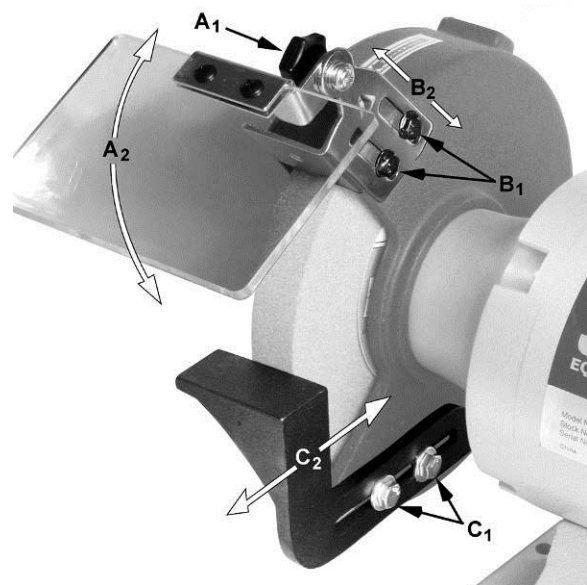

Figure 3
1. Loosen *lock knob* (A1, Fig. 3).
2. Adjust *eye shield* to the desired tilt angle (A2, Fig. 3).
1. Loosen two *hex cap screws* (B1, Fig. 3) with a 10mm wrench.
2. Slide the spark guard (B2, Fig. 3) to 1/16" distance from the grinding wheel surface.
3. Tighten screw (B1, Fig. 3).
1. Loosen two hex cap screws (C1, Fig. 3) with a 12mm wrench.
2. Slide the tool rest (C2, Fig. 3) to a distance of 1/16" from the grinding wheel.
3. Tighten screws (C1, Fig. 3).